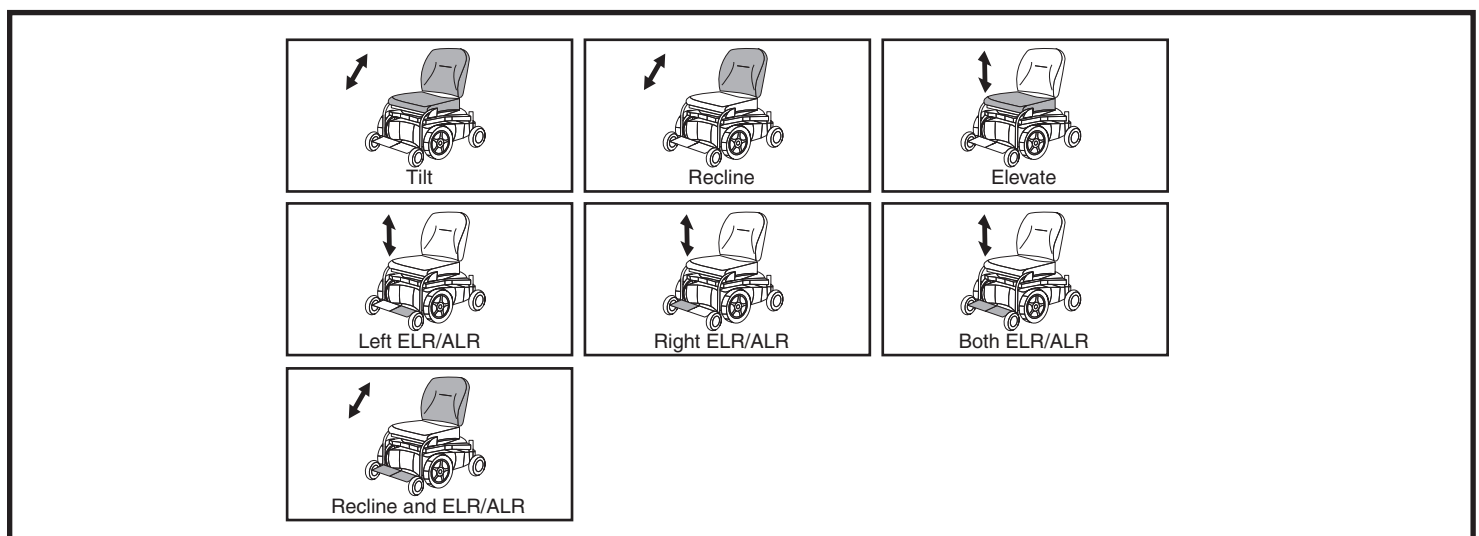

Figure 4. Actuator Screens
2. Press the mode button to display the actuator screen. **See figure 4.**